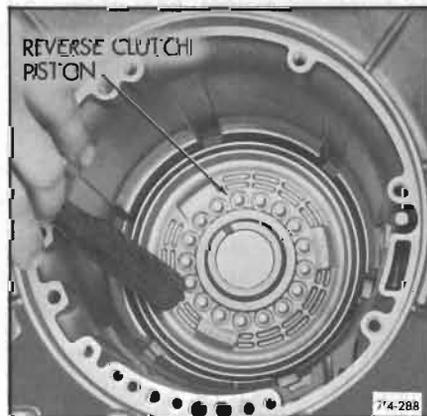

Figure 74-288
3. With transmission in vertical position install reverse clutch piston into case. Tap piston with hammer handle to make certain piston is seated in case. See Figure 74-288.